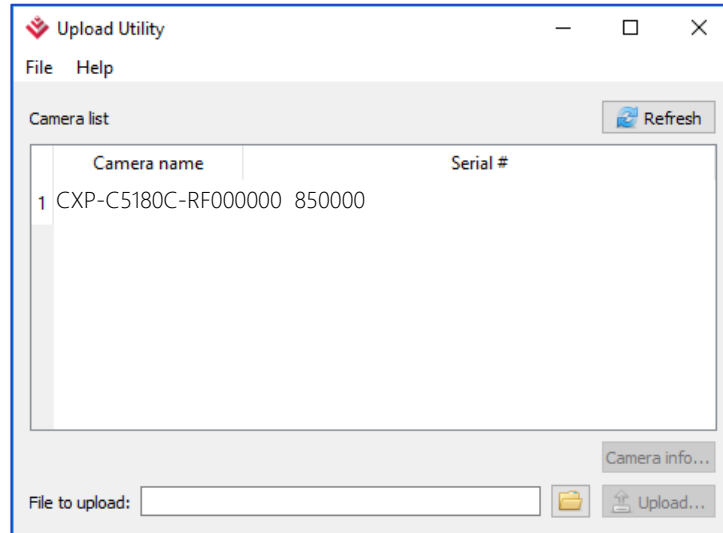

Figure 54: Detect a camera
2. Start the Imperx **Upload Utility** and wait for the Utility to detect the camera (Figure 54). If the utility does not detect the camera, click **Refresh** to restart the device collection.